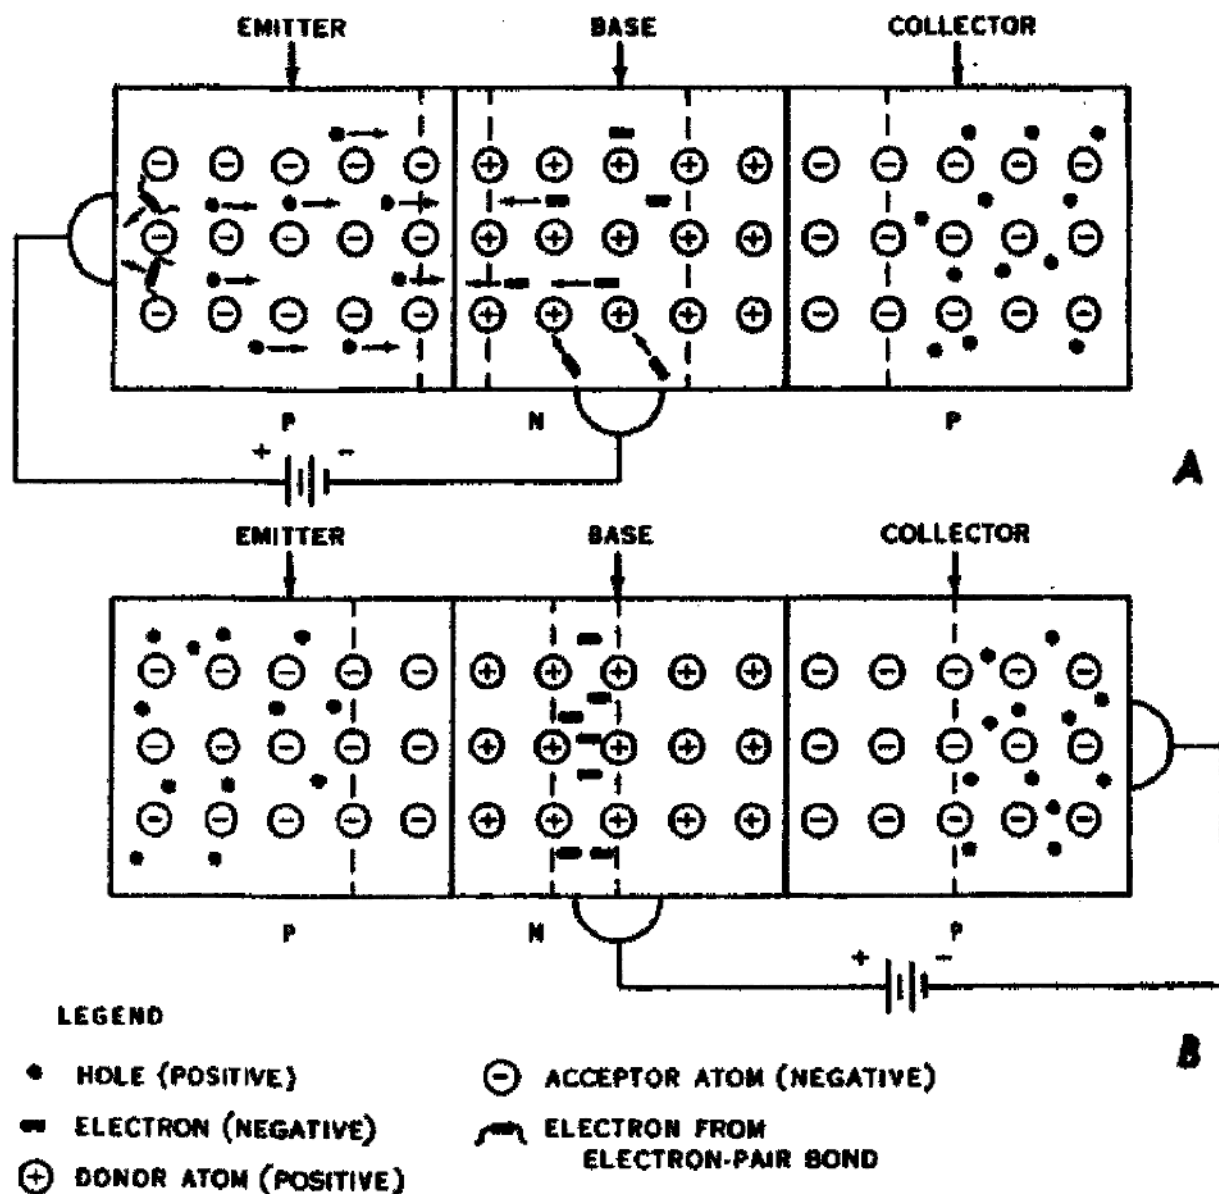

Figure 114. Forward bias between emitter and base (A) and reverse bias between base and collector (B)
21. Transistor action requires that one junction be biased in the *forward direction* and the second junction be biased in the *reverse direction*. Figure 114 shows the first junction biased in the forward direction. The second junction is not biased. Note that the space charge region (barrier) at the first junction is considerably reduced while the space charge region at the second junction is unchanged. The condition is identical to that of a P-N junction diode with forward bias.
22. Figure 114 shows the second junction biased in the reverse direction. The first junction is not biased. Note that the space charge region (barrier) at the second junction increases. Except for minority carriers (not shown), no current flows across the junction. This phenomenon is the same as that which occurs when two sections are combined to form a P-N junction diode with reverse bias.